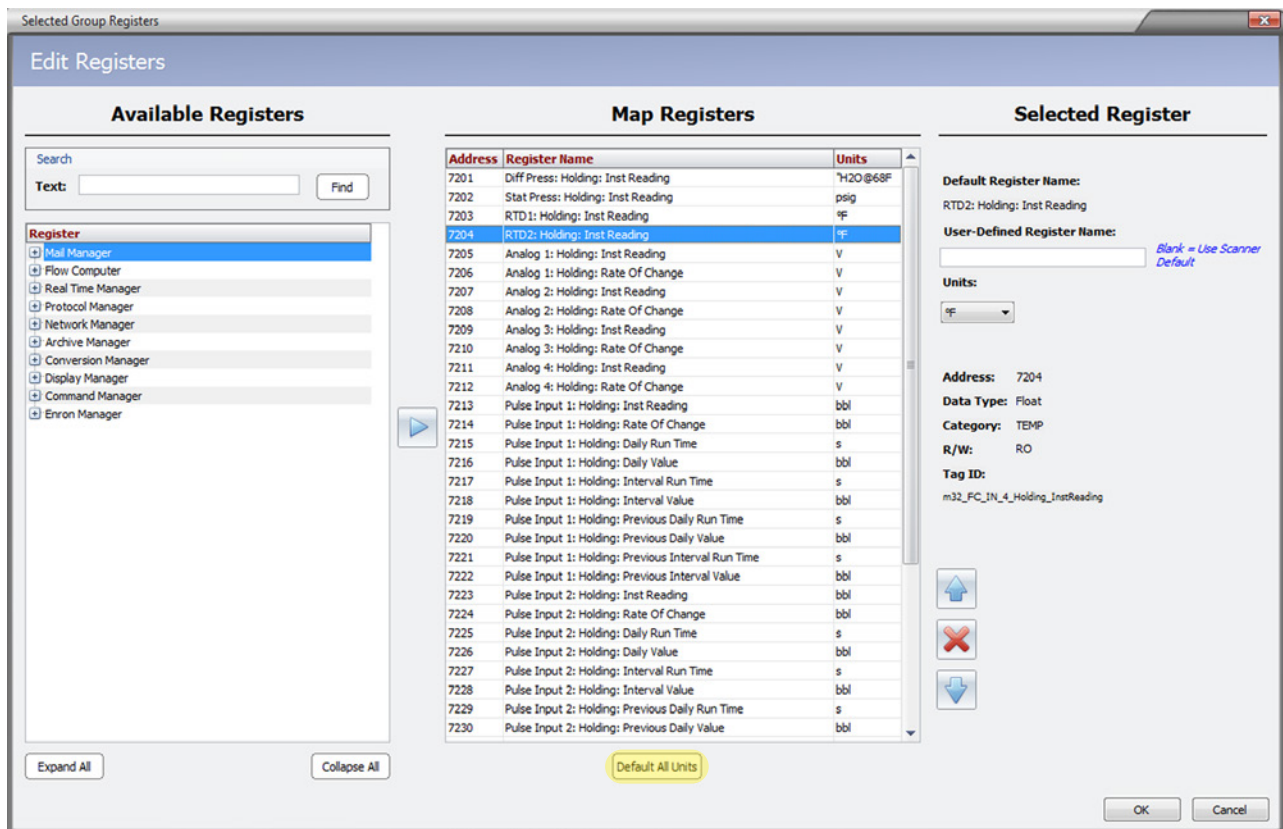

Figure 6.3—Default All Units button
3. Locate and click the **Default All Units** button centered below the “Map Registers” section of the screen (Figure 6.3).